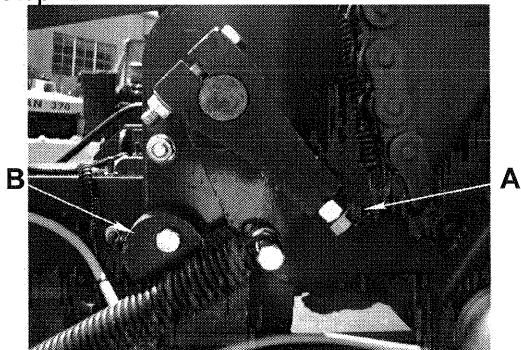

Fig.31
D. Trip the knotter clutch and rotate the clutch. The clutch pawl must have $1/8"$ (3 mm) clearance from the stop lever at "A," *Fig.31*. Adjust by loosening the Cam Stop mounting bolt and rotating the Cam Stop "B."